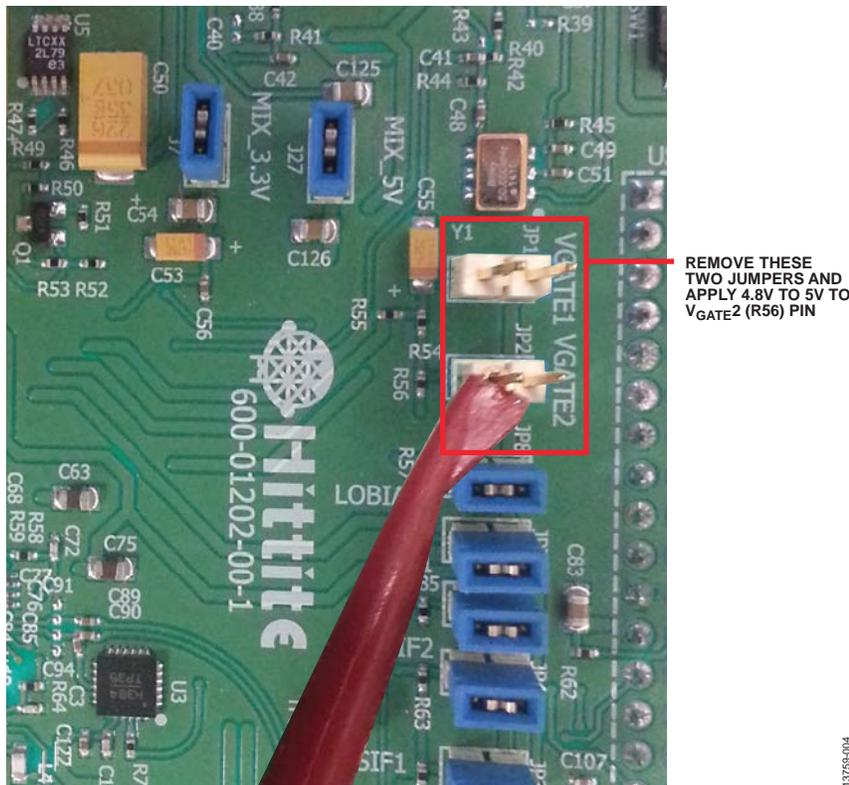

Figure 4. Test Setup
7. If JP1 and JP2 jumpers are placed, VGATE is set to 5 V. To change the VGATE voltage, remove the JP1 and JP2 jumpers and apply 4.8 V to 5 V to the VGATE test point, as shown in Figure 4.